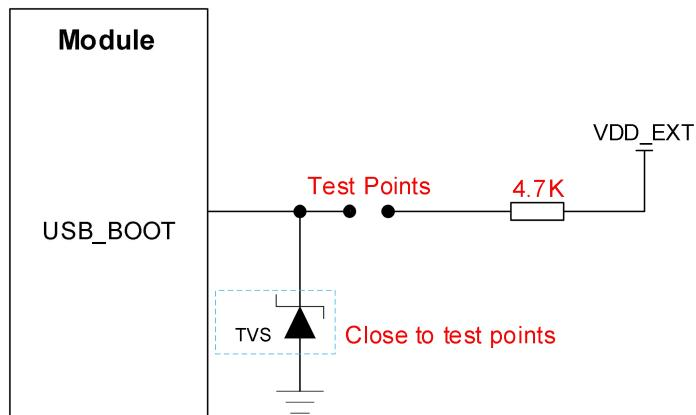

Figure 17: Reference Design of USB\_BOOT
3. If you need to manually force the module to enter forced download mode, directly connect the test points shown in **Figure 17**.